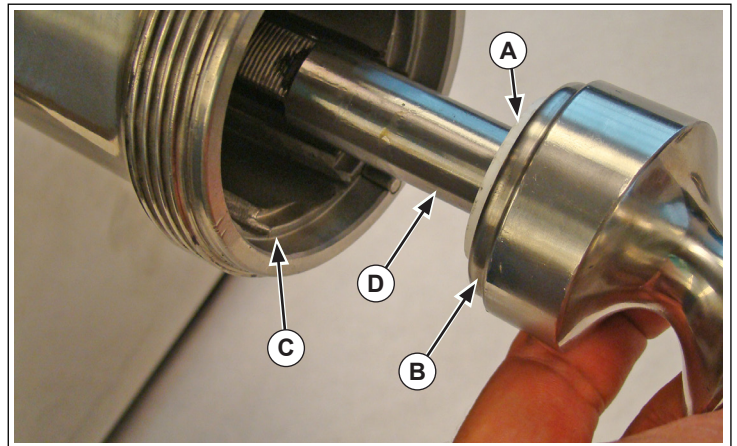

Figure 3. Shaft Washer, Worm Gear Assembly and Grinder Chamber
5. Slide the shaft washer (A) onto the worm gear shaft (B).
6. Slide the shaft washer (A) so that it is seated against the worm gear assembly (B) as shown. See Figure 3.
- Remove the worm gear assembly (B) from the grinder chamber (C). See Figure 3.